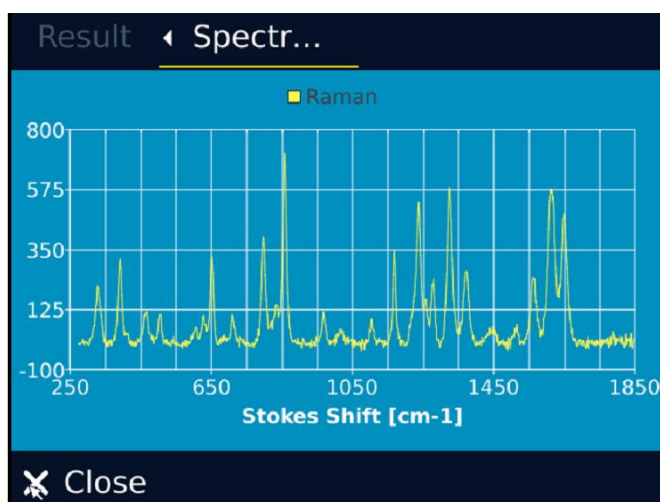

Figure 13. The display screen after a Build mode measurement of acetaminophen
7. When the measurement is complete, the instrument processes and displays the measurement (Figure 13).